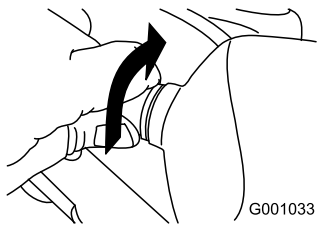

Figure 51
2. Turn the base of the bulb counterclockwise until it stops (Figure 51).